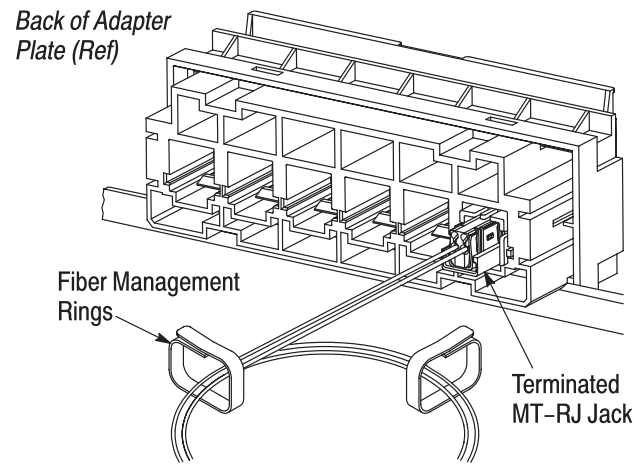

Figure 2
2. From the BACK of the adapter plate or patch panel, insert the terminated jack into the appropriate port until the jack locks into place. An audible “snap” indicates that the jack is secure. See Figure 2.
4. Dress the fibers through the fiber management rings provided in the enclosure. Refer to Figure 2.